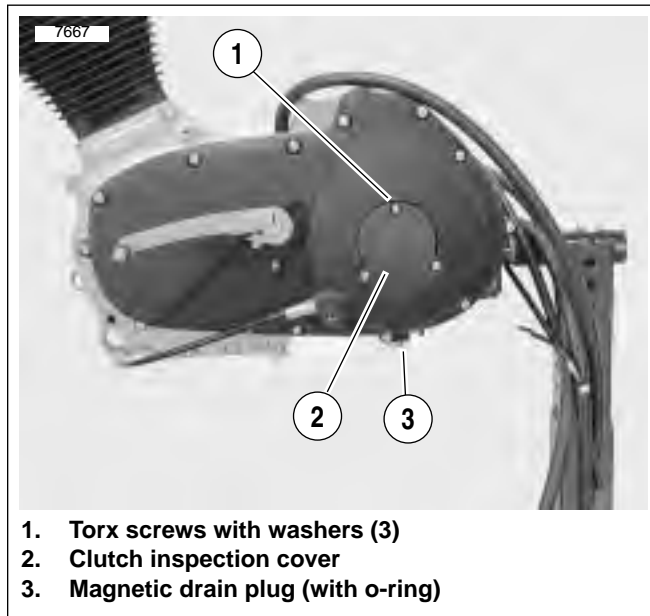

Figure 1-15. Primary Cover
4. See Figure 1-15. Remove three TORX screws with washers (1) from clutch inspection cover (2). Remove clutch inspection cover from primary cover.
6. See Figure 1-15. Install **new** gasket and clutch inspection cover using three TORX screws with washers. Tighten in a crosswise pattern to 84-108 **in-lbs** (9.5-12.2 Nm).
2. See Figure 1-15. Position a suitable container under drain plug (3). Remove magnetic drain plug with O-ring and drain fluid.
10. See Figure 1-15. Install clutch inspection cover using three TORX screws with washers. Tighten in a crosswise pattern to 84-108 **in-lbs** (9.5-12.2 Nm).